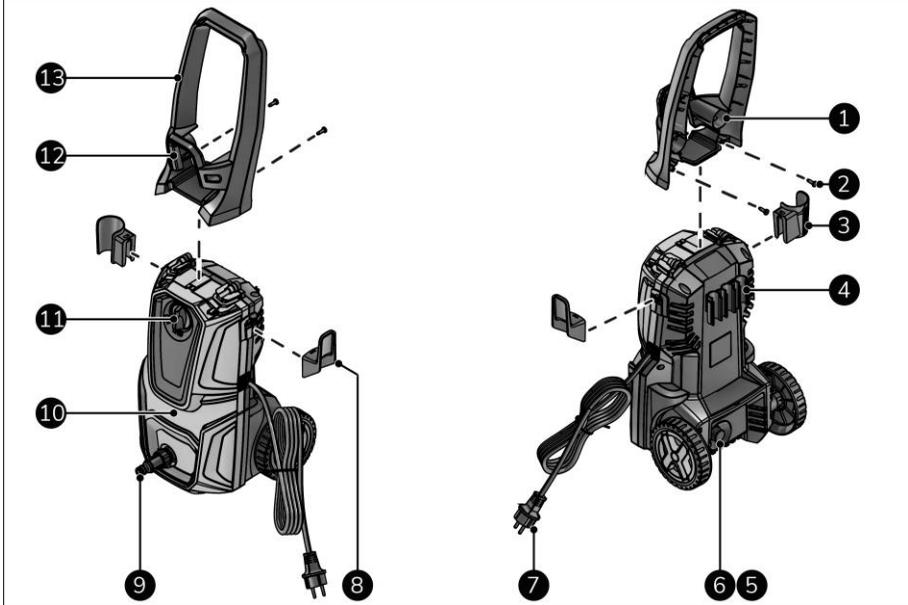

Figure 4
This EUROM device is an easy-to-use high-pressure cleaner (Figure 4). The device is designed for household use, such as cleaning vehicles, buildings, terraces, facades and garden equipment.
1. Make sure the ON(I)/OFF(O) switch is in the OFF(O) position (Figure 4, pos. 11).
5. Switch the device on (Figure 4, pos. 11).